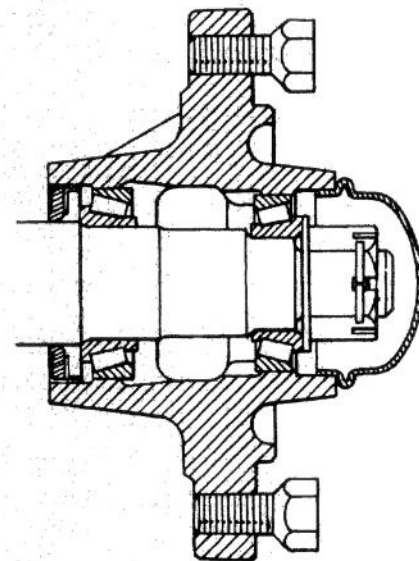

Figure 35
2. Remove the hub cap, cotter key, slotted nut, and washer (Fig. 35).